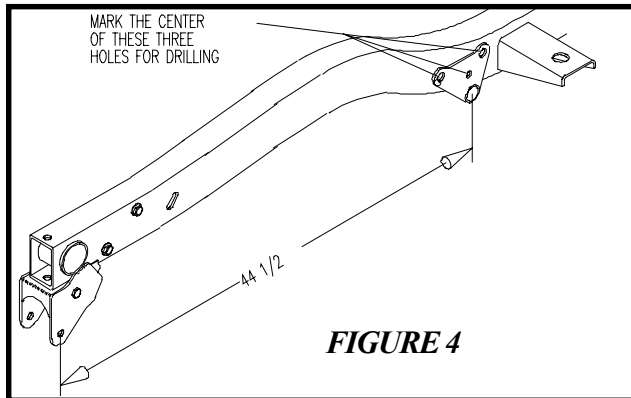

FIGURE 4
- b. Adjust the bracket so that the bushing hole is in line with the mark indicating 44 1/2" on the frame as shown in **figure 4** and is tight up against frame.
- a. Using the rear mount bracket as a templet mark the center of each of the three mount points with a center punch as shown in **figure 4**.